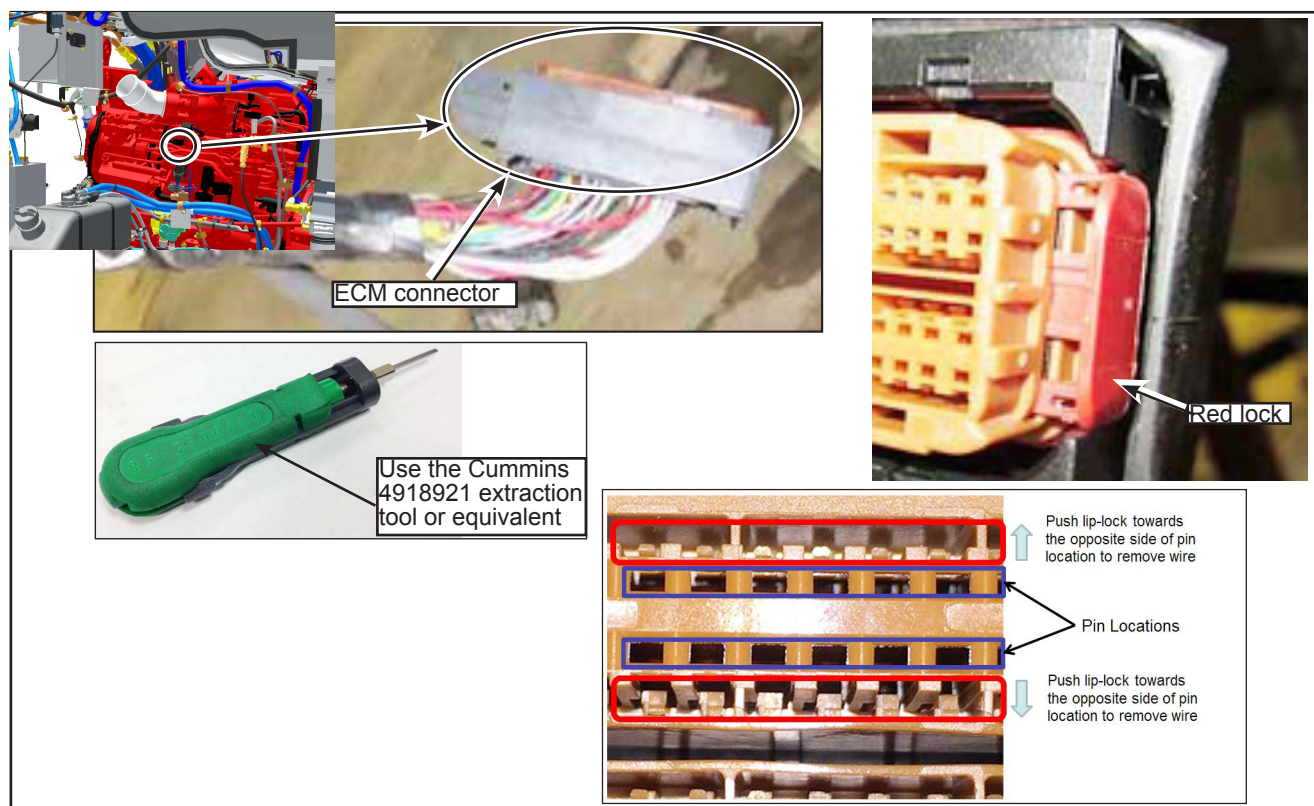

Figure 4 - Extract the Wires From the ECM Connector
- 1.4. Raise the bus, open the ECM connector back shell, remove the red lock and extract the terminals and wires from the ECM connector for APS 1 and APS 2 using the Cummins 4918921 extraction tool. Avoid pulling on the wires before pushing the lip locks with the Cummins extraction tool. Insert the Cummins extraction tool into the ECM connector avoiding a rotation movement. Pull on the wire once the wedge of the extraction tool has unlocked the pin (see Figure 4).